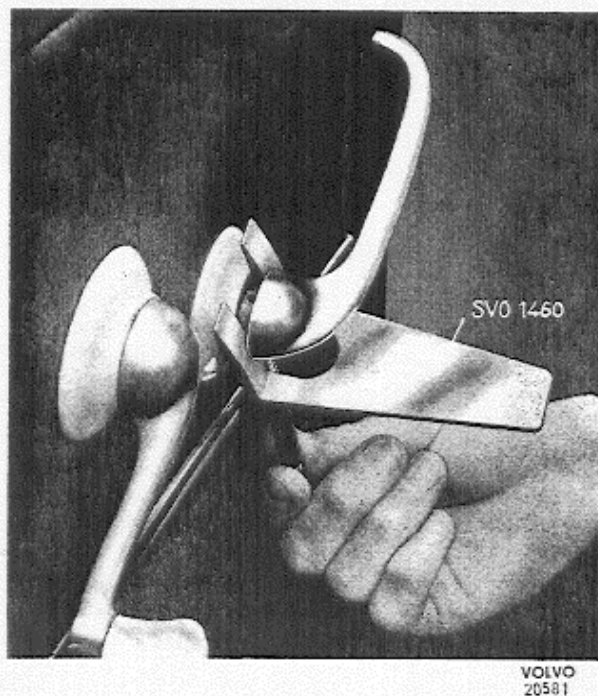

Fig. 26. Removing the door handle
1. Remove first the door handle, arm rest and window regulator. The door handle and the window regulator are removed as shown in Fig. 26.
1. Remove the arm rest, the inner door handle and the window regulator. The door handle and the window winder are removed by using tool SVO 1460 as shown in Fig. 26.
2. Remove window winder and inner door handle. These are removed by using tool SVO 1460 as shown in Fig. 26.